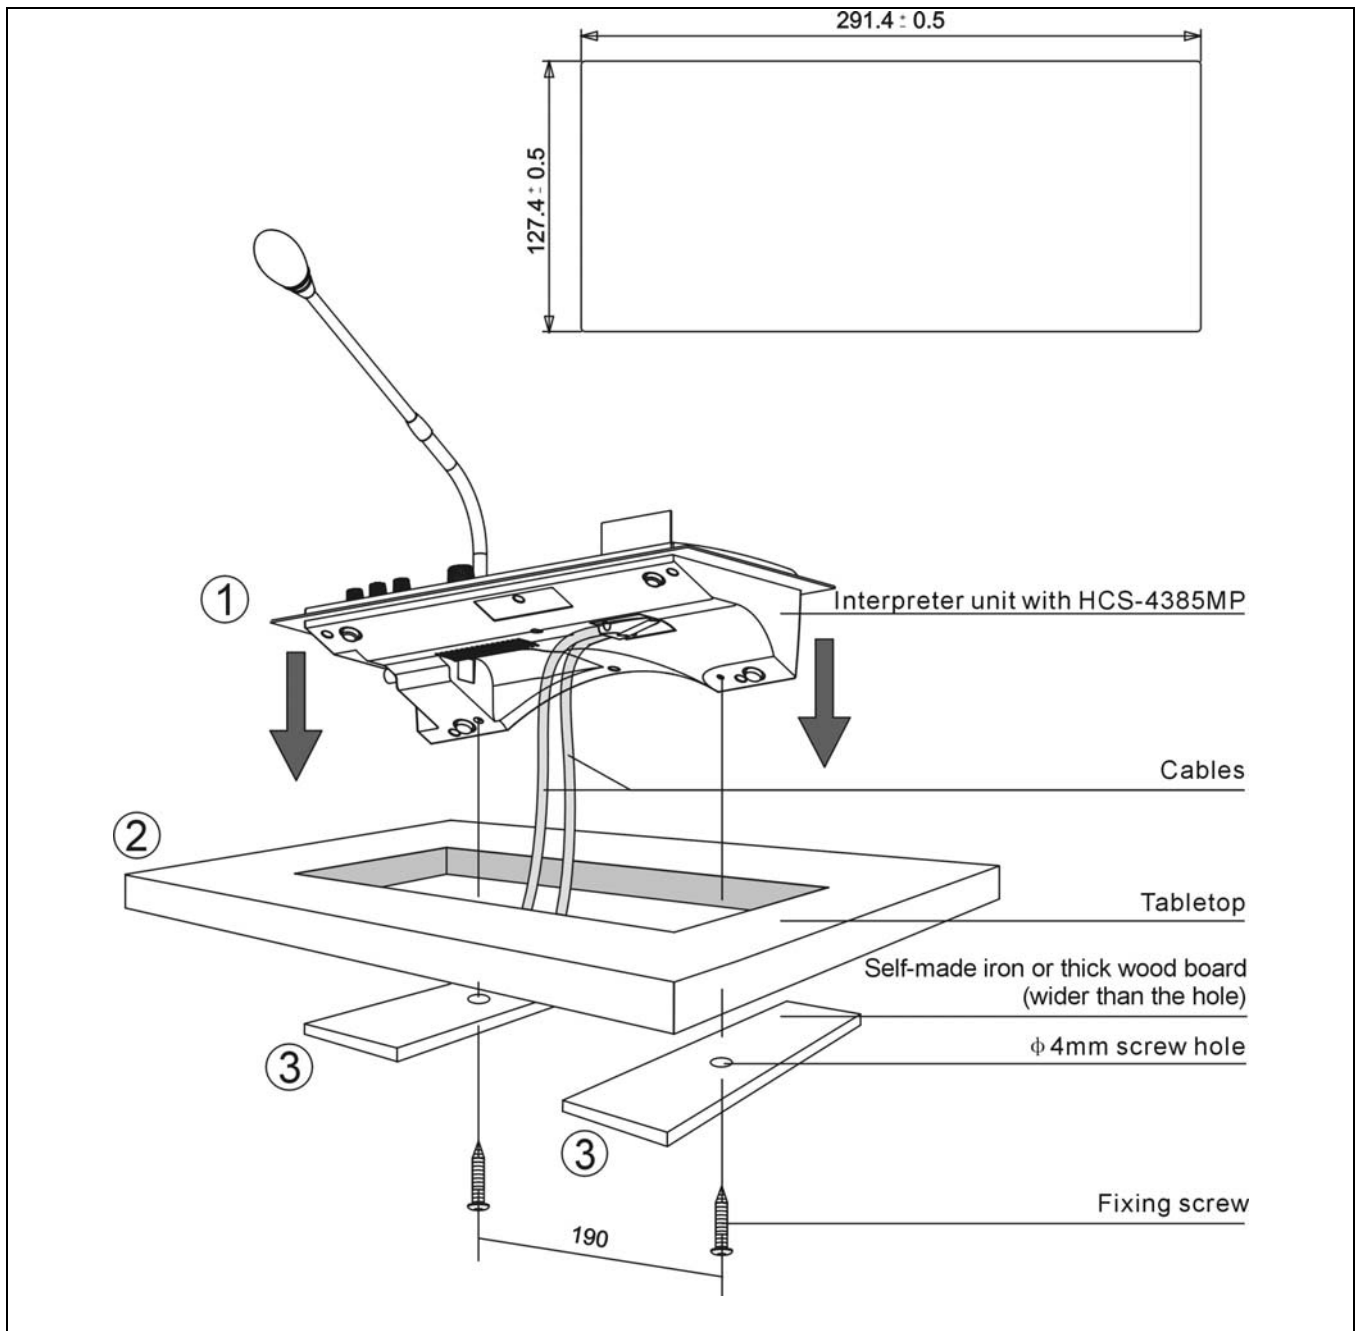

Figure 4.2.1 Installation diagram (unit: mm)
- a. Make a recess in the table according to the dimensions in figure 4.2.1;
- b. Drill two $\varnothing 4$ mm screw holes in the counterpiece according to figure 4.2.1. The distance between the centers of the screw holes is 190 mm;